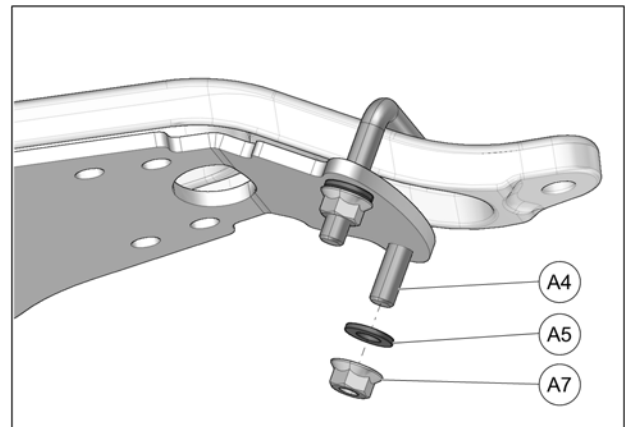

Fig. 17
6. Secure the narrow end near the wheel hub by using a U-bolt (A4). Make sure to install flat washers (A5) on the U-bolt before installing nuts (A7). See Fig. 17